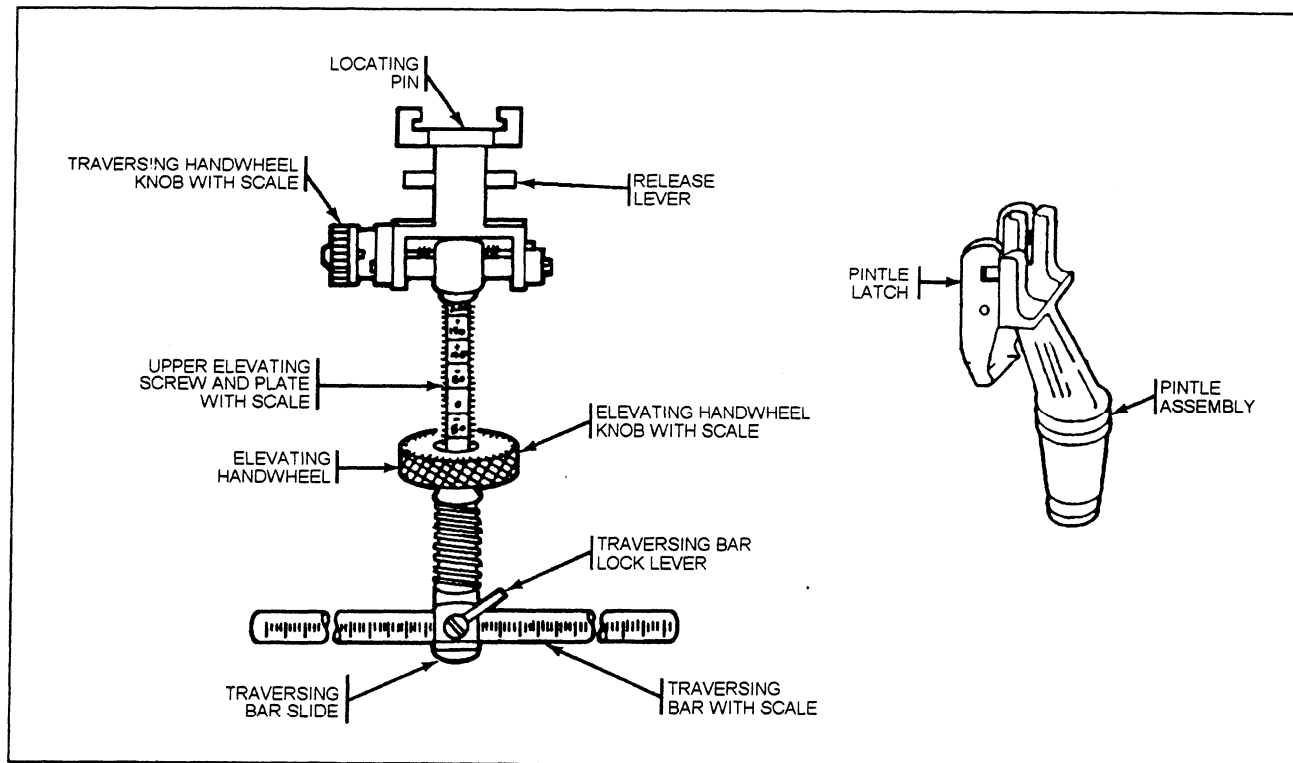

Figure 13-12.—Traversing and elevating mechanism, pintle, and platform group.
The traversing and elevating mechanism shown in figure 13-12 consists of (1) the elevation adapter that connects to the mounting plate on the bottom of the receiver and (2) the traversing handwheel that has a rill-click device built into it. One click equals a 1-mil change. Engraved on the traversing handwheel is a scale that is divided into 1-mil increments for a total of 25 mils. Use of the traversing mechanism allows the gun to be traversed approximately 100 mils (50 mils right and left of center).
The pintle and platform group shown in figure 13-12 consist of the gun platform and the pintle, which is secured to the tripod assembly.